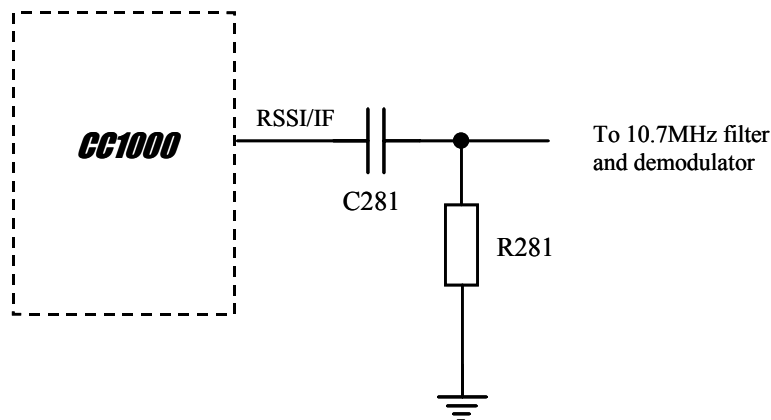

Figure 23. IF output circuit
**CC1000** has a built-in 10.7 MHz IF output buffer. This buffer could be applied in narrowband applications with requirements on mirror image filtering. The system is then built with **CC1000**, a 10.7 MHz ceramic filter and an external 10.7 MHz demodulator. The external network for IF output operation is shown in Figure 23. R281 = 470  $\Omega$ , C281 = 3.3nF.